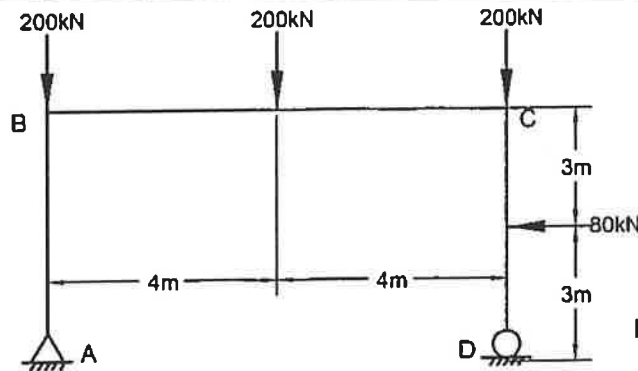

FIGURE B1
- B1. A loaded R.C. determinate frame, Figure B1, is required for design. Using $f_c' = 35$ Mpa and $f_y = 400$ Mpa determine the size of the member BC, and the required reinforcing steel for moment and shear.
- B3. For the loaded determinate frame in Figure B1, design a square cross-section for the column CD, and the corresponding reinforcing steel. Assume the column is short, free at D and monolithic at C.